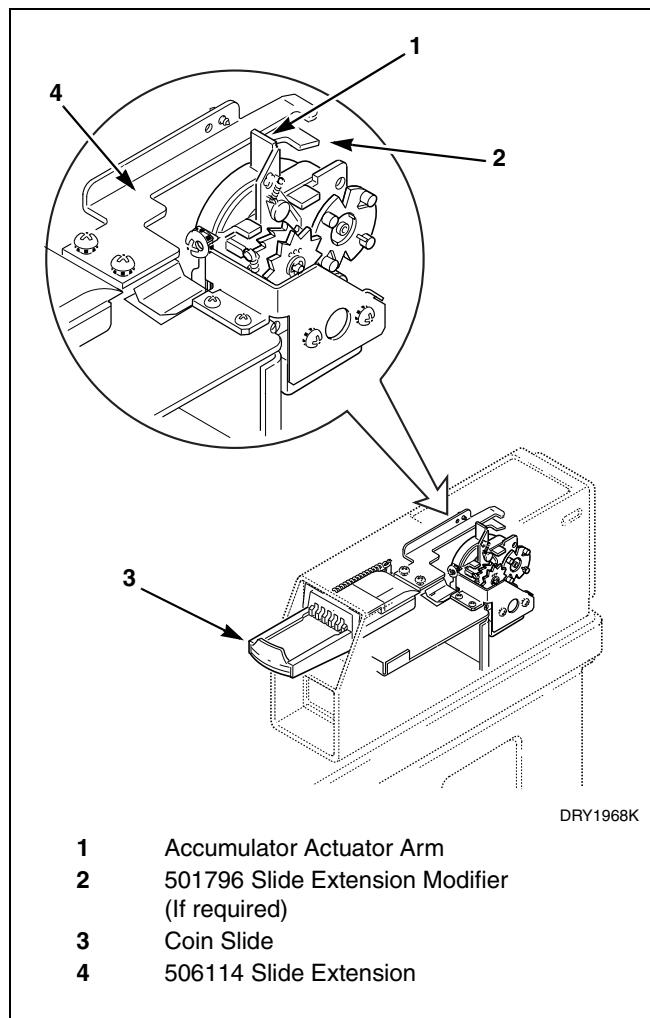

Figure 5
- Reinstall coin slide in dryer meter case. Refer to *Figure 5*.
When slide is pushed all the way in (accumulator arm will be rotated to the back) and slide is retracted, the accumulator actuator arm should remain back until the slide extension is moved forward and again contacts the actuator arm to return the arm to the starting forward position. Refer to *Figure 5*.